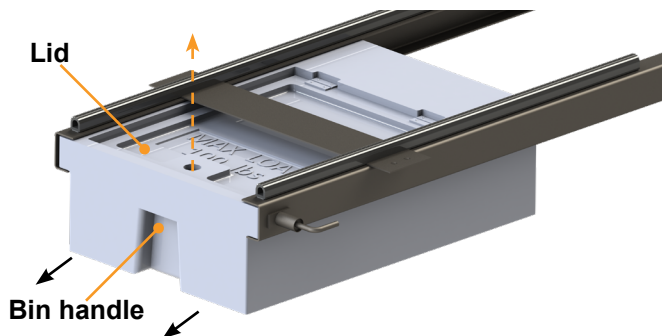

Fig.5
3. Lift the lid (Fig.5) and place items in bin.